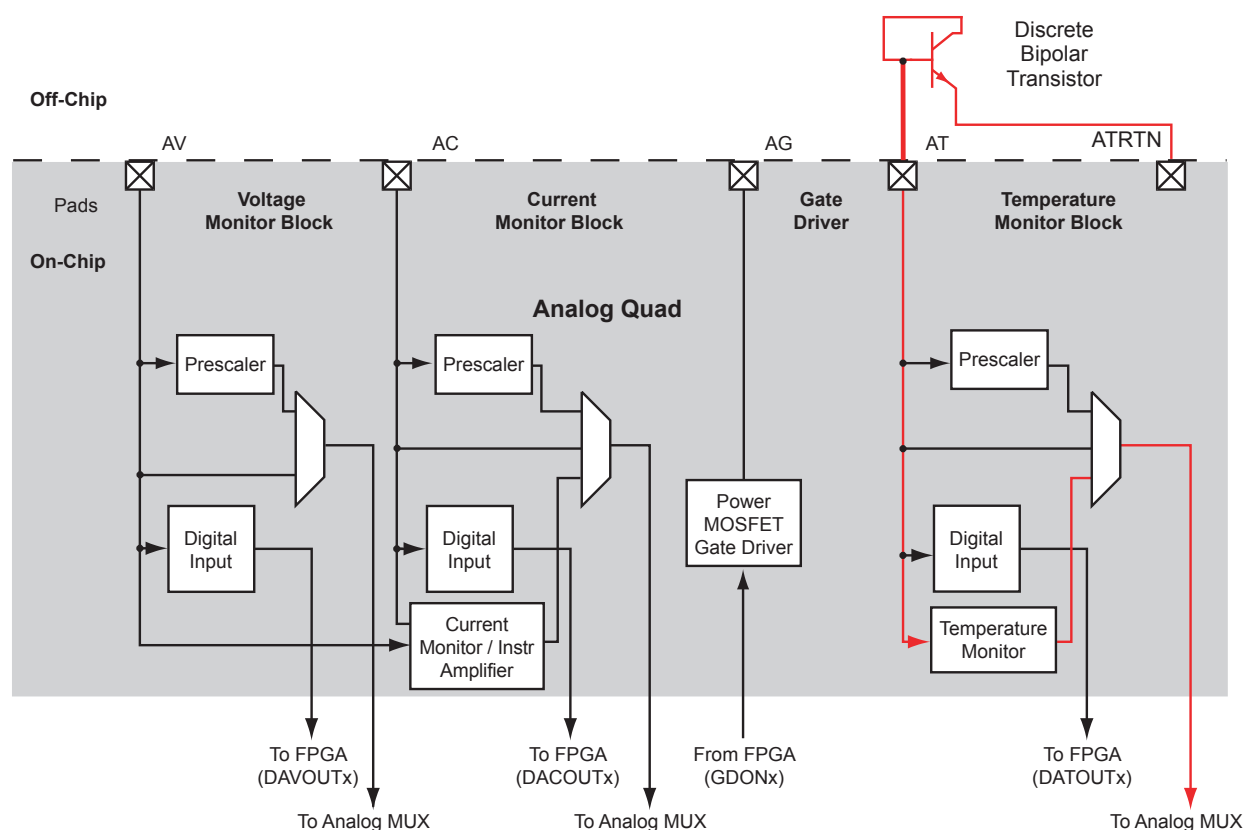

Figure 2-76 • Temperature Monitor Quad
The final pin in the Analog Quad is the Analog Temperature (AT) pin. The AT pin is used to implement an accurate temperature monitor in conjunction with an external diode-connected bipolar transistor (Figure 2-76). For improved temperature measurement accuracy, it is important to use the ATRTN pin for the return path of the current sourced by the AT pin. Each ATRTN pin is shared between two adjacent Analog Quads. Additionally, if not used for temperature monitoring, the AT pin can provide functionality similar to that of the AV pad. However, in this mode only positive voltages can be applied to the AT pin, and only two prescaler factors are available (16 V and 4 V ranges—refer to Table 2-57 on page 2-133).